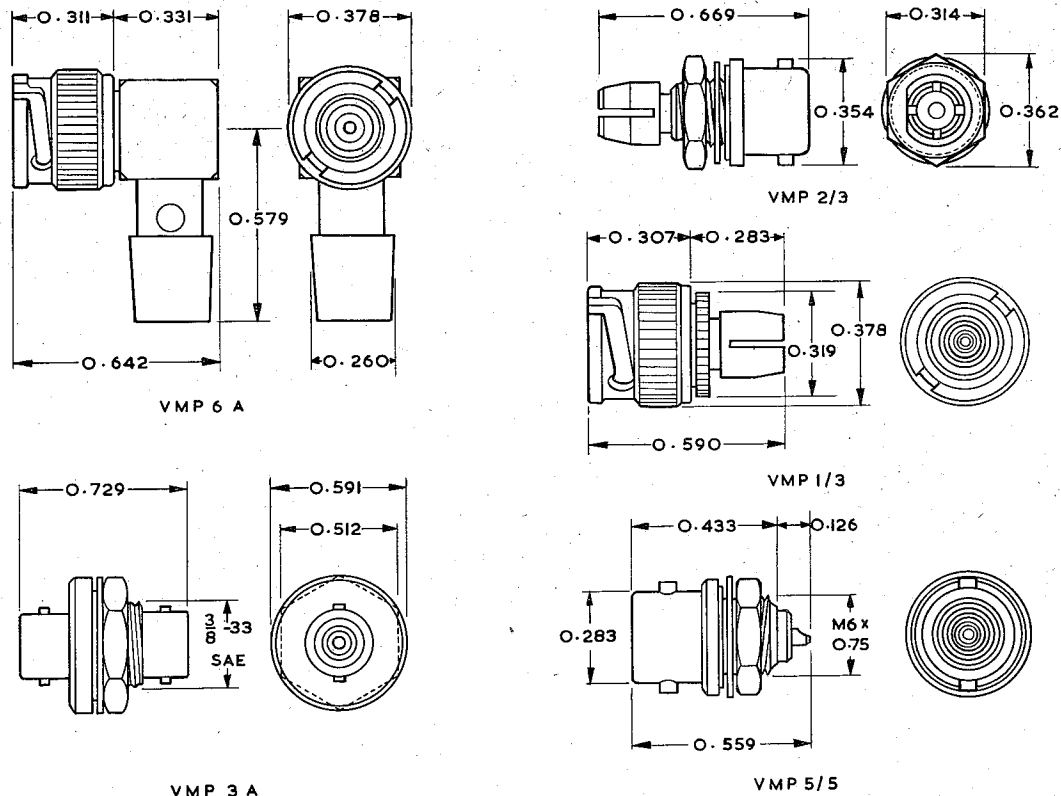

Fig. 2. Arrangement and dimensions
3. These connectors may not be dismantled, as the internal insulation and contacts are integral with the shells to ensure accurate contact alignment and an impedance of 50 ohms. The shells are of machined brass, heavily silver plated and coated to prevent oxidization. The insulation between the shell and contact pin is of Teflon and the contacts are made of brass, silver plated and coated. The overall dimensions and arrangements of the connectors in this range are shown in fig. 2. Table 1 details the connector types and reference numbers..